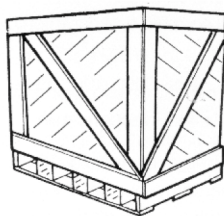

Fig. 2.1
- packaging with a wooden or cardboard box is envisaged for international shipments (see figures 2.1 and 2.2);